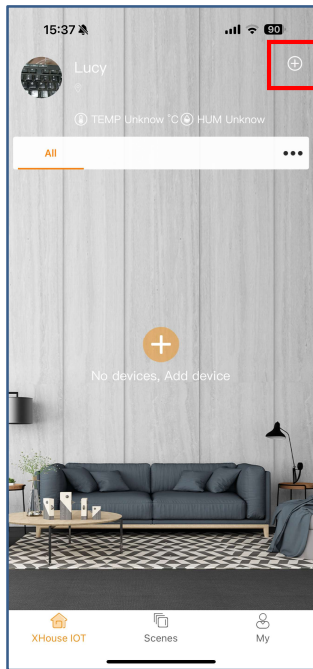

Fig 1
Step 1. Power on the device, open the APP. Press the “⊕” on the top right corner to add the device, then select the“Swinging Gate”which has a orange cycle on the top right corner. (Fig 1 and 2)